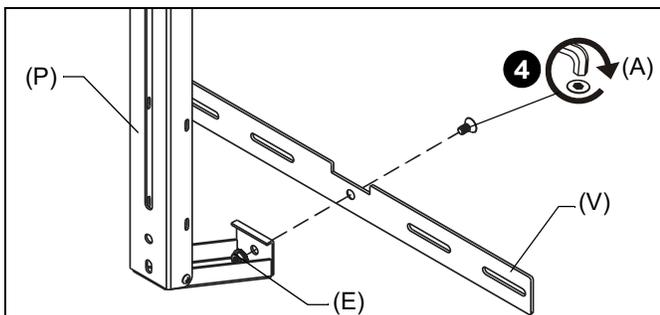

Figure 2
4. Attach one lower wall bracket (V) to each of the upright assemblies (P) using one 1/4-20 x 1/2" flat head cap screw (A) and one 1/4-20" hex nut (E) on each lower wall bracket. (See Figure 2)